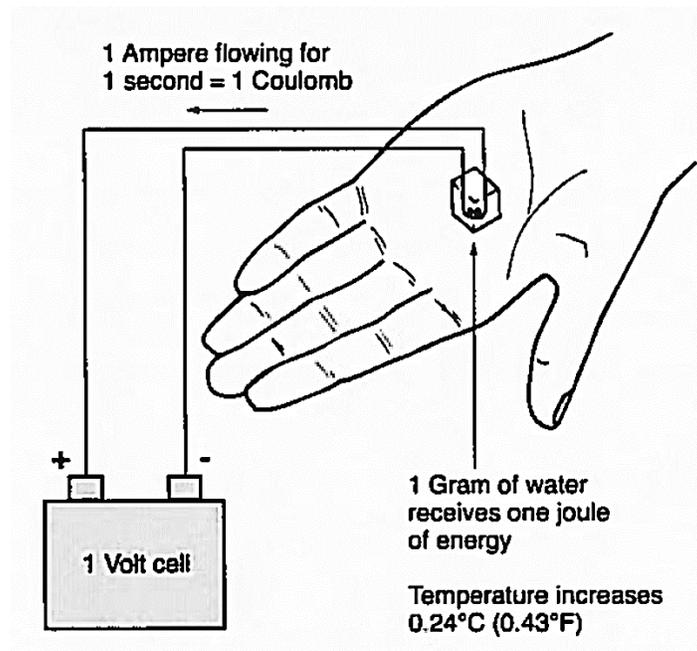

Figure 5.3: Electricity Heating Water
- 5-27 Figure 5.3 shows the idea of a volt. Suppose you place a small electric heater in approximately one gram of water which occupies a volume of one cubic centimeter. Suppose further that the resistance of the heater allows current of one ampere to flow when the heater is connected to a one-volt cell.